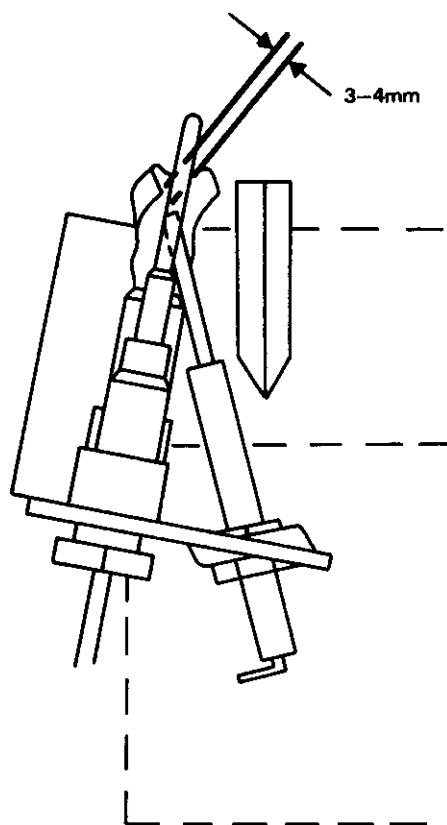

Fig. 13
- (e) The spark gap is correct – Refer Fig. 13.
- (g) The position of the thermocouple relative to the pilot burner and main burner is correct – Refer Fig. 13.
7. Transfer the electrode and shield to the new pilot burner ensuring that the spark gap is correct. Refer Fig. 13.